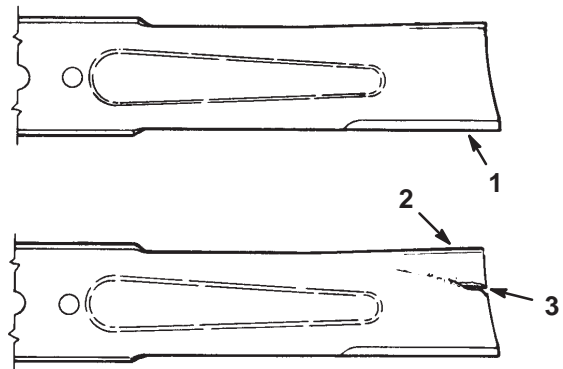

Figure 54
1. Inspect the cutting edges (Fig 54). If the edges are not sharp or have nicks, remove and sharpen the blades. Refer to Sharpening the Blades on page 43.
2. Inspect the blades, especially the curved area (Fig. 54). If you notice any damage, wear, or a slot forming in this area (item 3 in Fig. 54), immediately install a new blade.